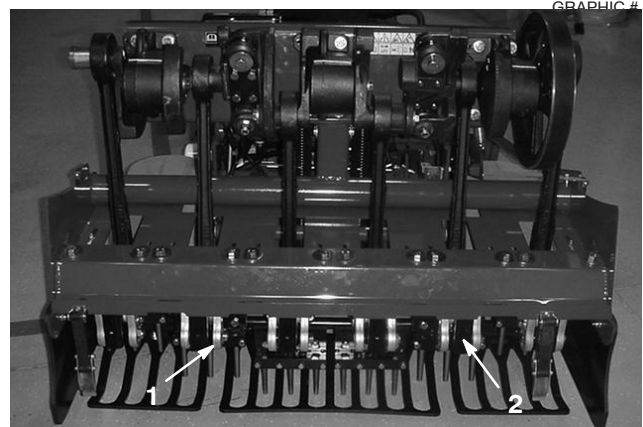

Figure 25
5. Install tines into the #2 and #5 tine holders (Fig. 25) Tighten the capscrews.